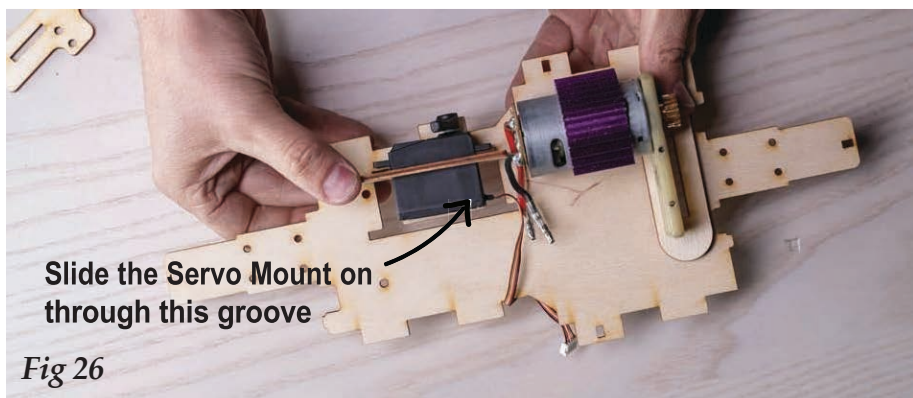

Fig 26
- 2 Insert the servo mount into the widest slot of the frame. Line up the grooves, then slide it in completely (Fig 26).